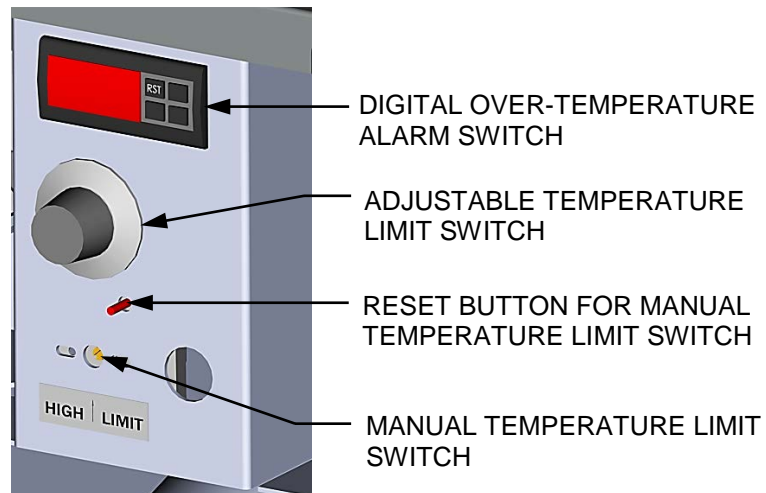

Figure 4-5: Over-Temperature Limit Switch Locations
The unit contains three (3) types of over-temperature limit switches. These switches consist of a manual reset switch, a rotary dial adjustable switch and a digital alarm switch. These switches are mounted on a plate as shown in Figure 4-5. The switches can be accessed by opening the front panel door of the unit.
The manual reset switch is not adjustable and is permanently fixed at 210°F. This switch will shut down and lock out the boiler if the water temperature exceeds 210°F. Following an over-temperature condition, it must be manually reset by pressing the manual reset button shown in Figure 4-5 before the boiler can be restarted.
The digital alarm switch shown in Figures 4-5 and 4-6 is preset at the factory to 210°F and should not be changed. If an over-temperature condition is detected, this switch automatically shuts down the boiler and sounds an audible alarm. If desired, the over-temperature alarm switch settings can be checked or adjusted using the procedure in section 4.5.1.